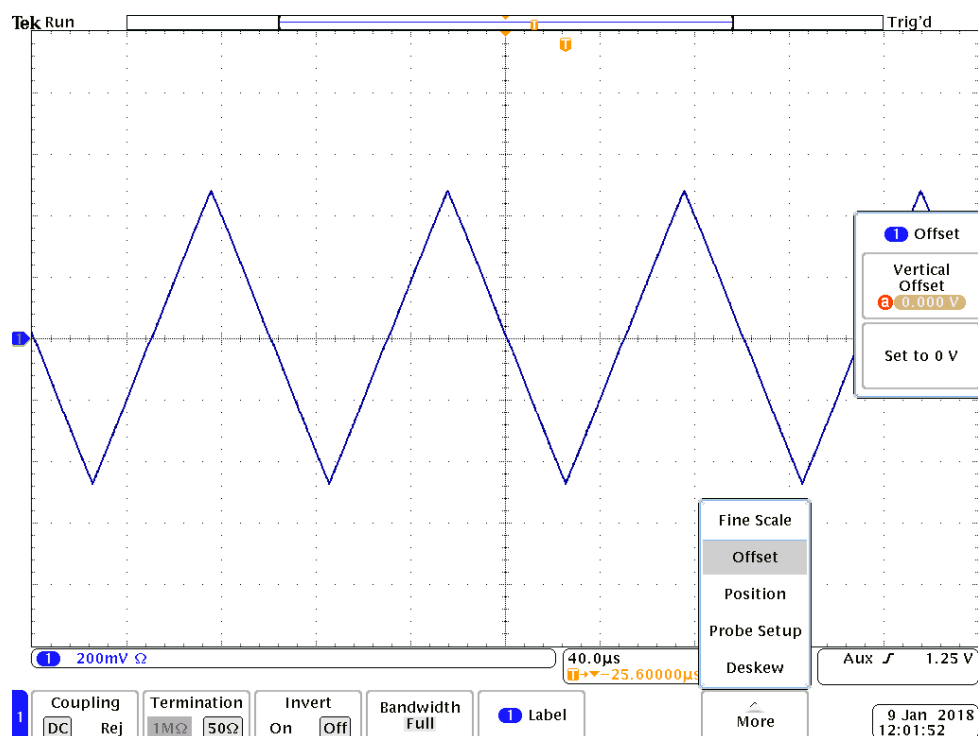

Figure 19:  $1 V_{P-P}$  signal ( $\pm 500$  mV) centered at 0 V with no input offset applied
**Output voltage clipping examples (2X Range).** This is the same signal as in the 1X example. (See Figure 19 on page 29.) This signal is within the input and output range of the measurement system. The system is in the 2X Range with direct input to the input SMA connector.